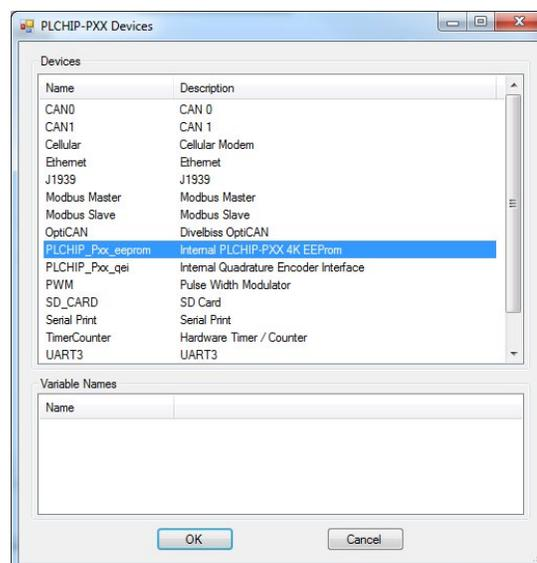

Figure 2-37 - PLCHIP-PXX Devices - EEPROM
4. Click the **PLCHIP_Pxx_eeprom** device (highlight). Refer to Figure 2-37.